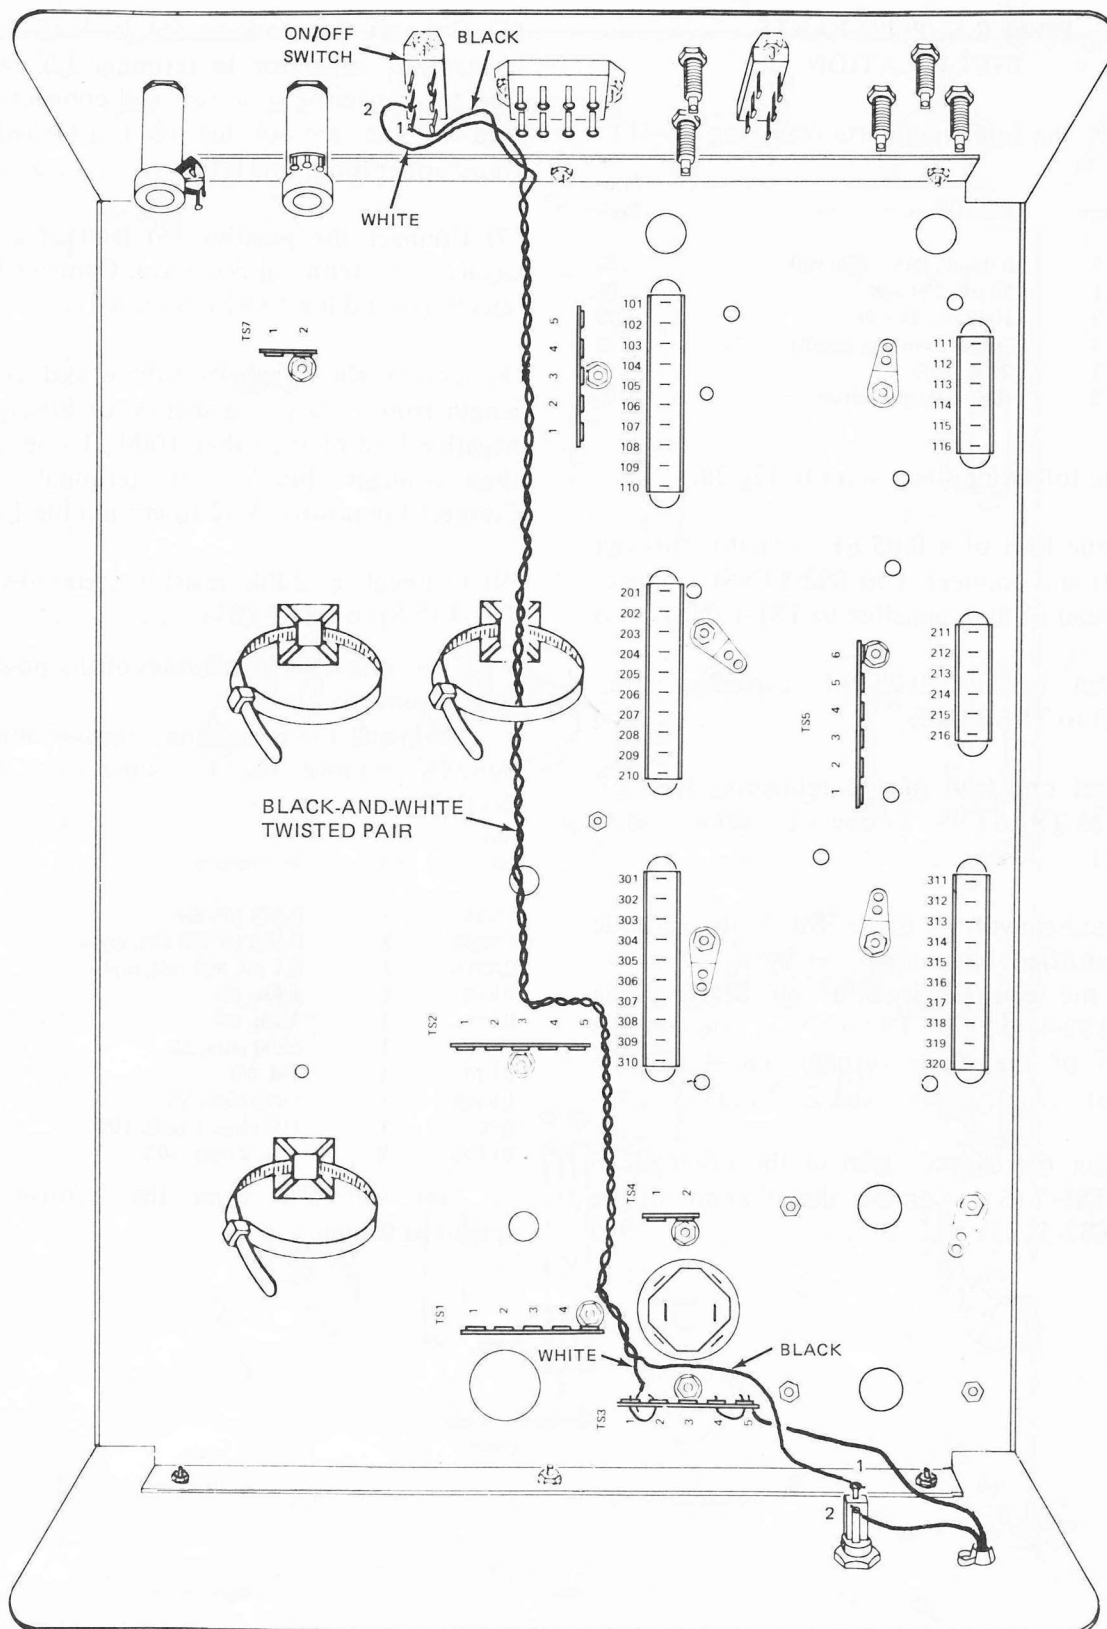

Figure 24. Wiring connections for 115 V operation.
Refer to Fig.24 and complete the following steps:
- (1) Separate the two conductors of the line cord and connect one wire to F1-2 (S1) ()
- (2) Connect the other line cord wire to TS3-5 (NS) ()
- (3) Prepare a 19" length of the black-and-white twisted pair wire by untwisting both ends two or three turns and stripping 1/4" of insulation from the ends of both wires at each end. Connect the black wire to F1-1 (S1) and the white wire to TS3-1 (NS) ()
- (4) Route the pair as shown in Fig.24 and then connect the black wire, at the other end, to pin 1 of the ON/OFF switch (S1). Connect the white wire to pin 2 of the ON/OFF switch (S1) ()
- (1) Refer to Fig.24. Remove all of the insulation from a 3/4" piece of black hookup wire and connect the wire between TS3-1 (S3) and TS3-2 (S2) ()
- (2) Remove all the insulation from another 3/4" piece of hookup wire and connect this wire from TS3-4 (S2) to TS3-5 (S3) ()